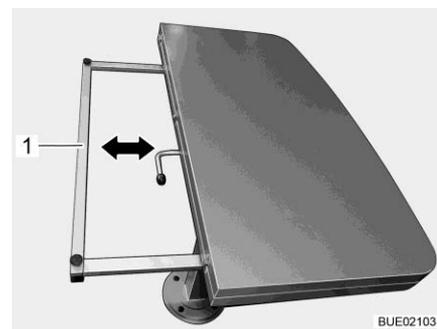

Fig. 131 Reducing the table top size
- Hold the supporting frame (Fig. 131,1) on both sides and push it underneath the table top as far as it will go.